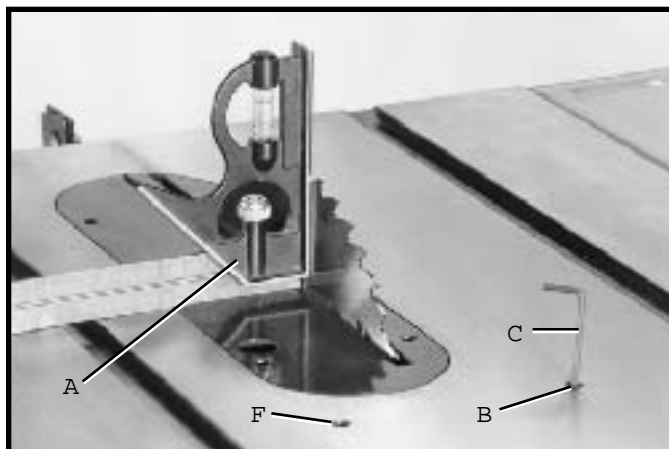

Fig. 81
4. Using a combination square (A) Fig. 81, check to see if the blade is at 90 degrees to the table surface as shown.
5. If the blade is not at 90 degrees to the table, loosen set screw (B) Fig. 81 with supplied wrench (C), and turn the blade tilting handwheel until you are certain the blade is at 90 degrees to the table. Turn set screw (B) clockwise until it bottoms.